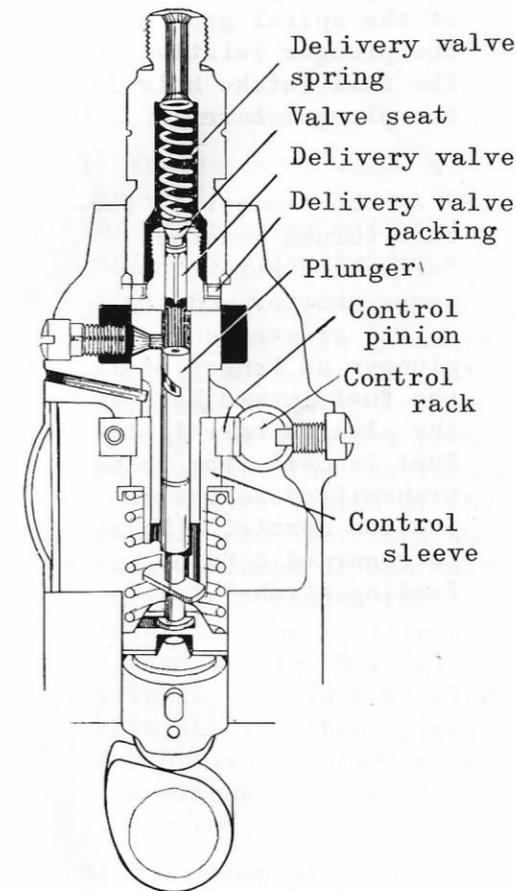

Fig. 9-5
(7) The controlling of the amount of fuel injection is carried out successfully by the control rack arranged in the following manner as illustrated in Fig. 9-5.